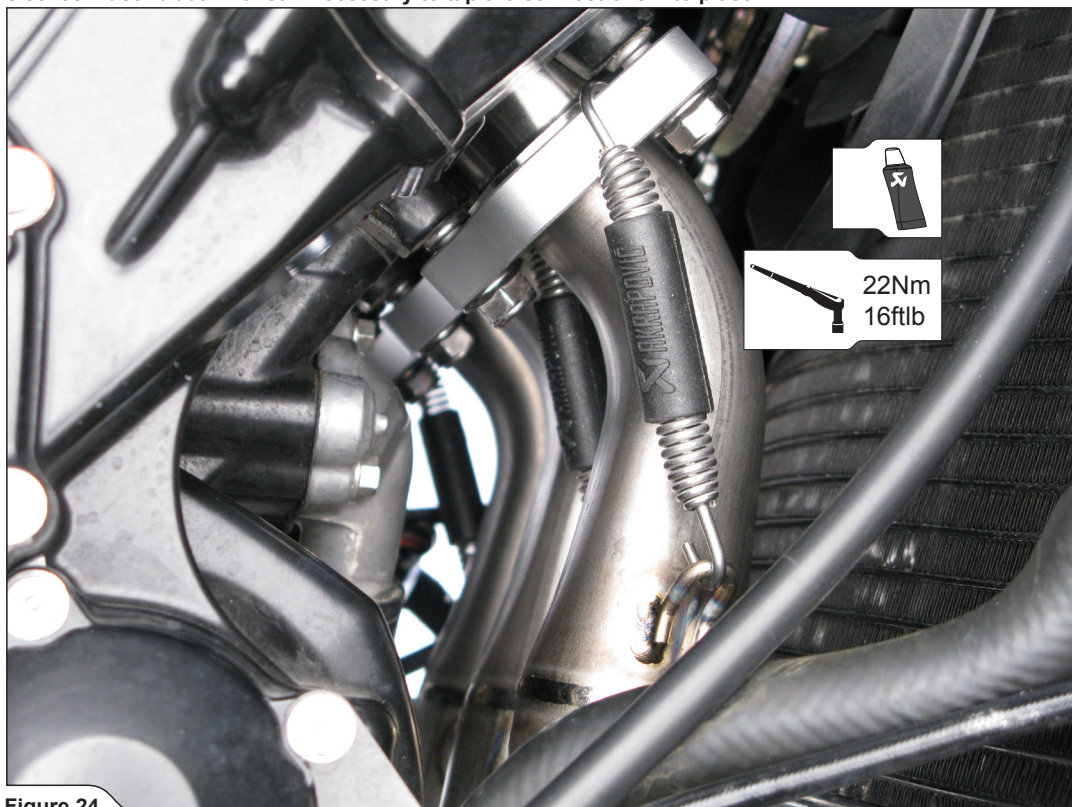

Figure 24
3. **For Racing exhaust system only:** insert the header tubes all the way into the sleeves, attach the springs and tighten the flanges to a specified torque (Figure 24).